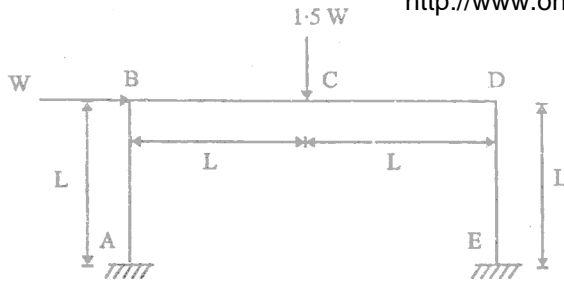

Fig. 4
4. Determine the value of W at collapse for the portal frame shown in ahead fig. 4. The plastic moment of resistance is same for all the members. 20